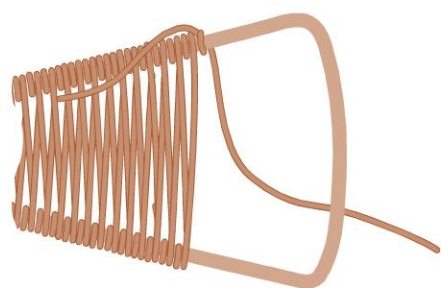

figure 36
- 8 Coil the weaving wire one time around the frame wire in the same direction you were coiling with the last piece of weaving wire (Figure 36).